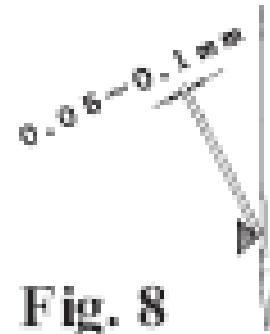
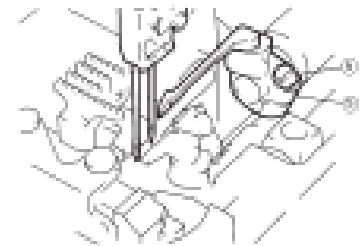

Fig. 8
Fig. 9
Set the clearance between the left needle and the looper point to .05 - .1mm when the looper point is behind the left needle centerline. For cotton and spun polyester this setting should be .02 - .05mm (see Fig. 8). To adjust, loosen screw (item 6) of looper holder (item 5) and move looper holder back or forth (see Fig. 9).
- A. Re-adjust the looper avoiding motion according to the needle size. (See Figs. 8 and 9).